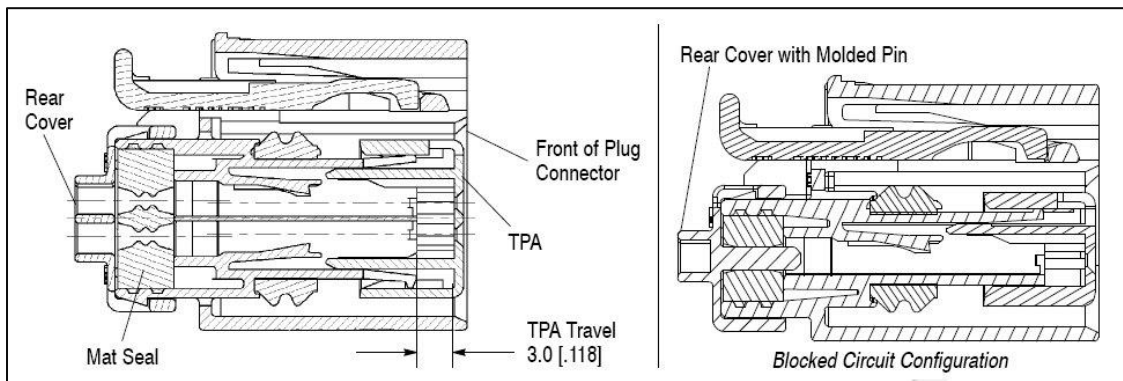

Figure 3-5. Connector Components
- a) Verify that the TPA is in the pre-staged position (un-locked). Prior to installing the contacts, the TPA and the front of the connector should be almost flush with each other. See **Figure 3-5**.